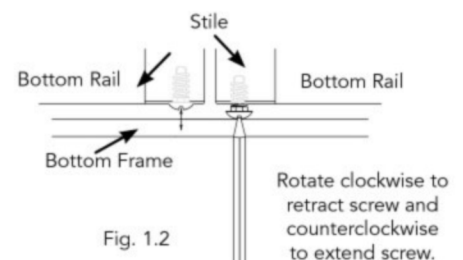

Fig. 1.2
- If minor support or leveling is required, turn adjustable jamb cap at the bottom of the vertical jamb (stile) to the required spot. (See Fig. 1.2)
- When magnets are supplied, minor support or leveling can be achieved by turning the adjustable jamb cap at the bottom of the vertical jamb (stile) to the required spot. (See Fig. 1.2)